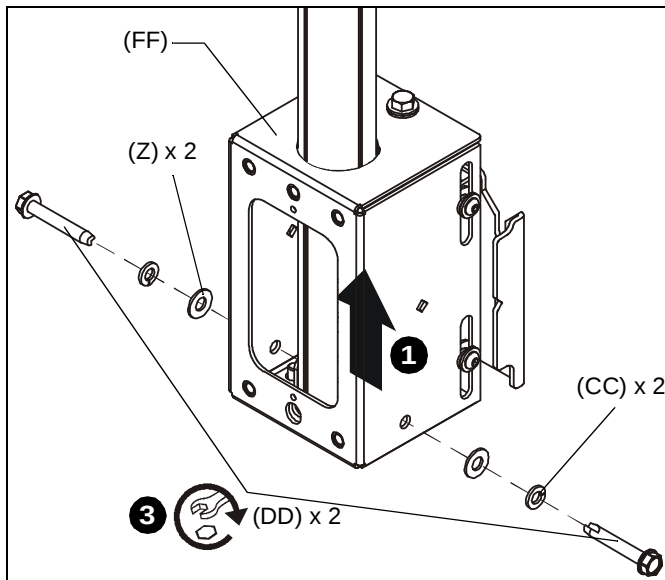

Figure 4
1. Slide array head (FF) up from below onto installed column (not included). (See Figure 4)
2. Line up holes in sides of array head (FF) with holes in column.
3. Install two 5/16" x 2" self-tapping screws (DD) through two 5/16" split washers (CC), two 5/16" flat washers (Z), sides of array head (FF), and into installed column. (See Figure 4)
4. Repeat Steps 1 through 3 for remaining array head (FF), assuring that second array head is approximately level with first installed array head.